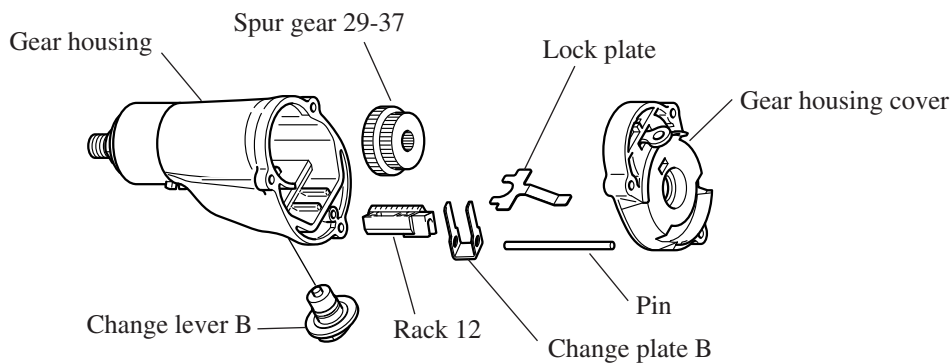

Fig. 3
(3) Disassembling gear section See Fig. 3.